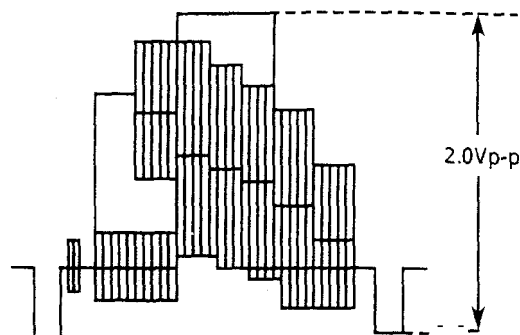

Figure 2-7.
5. Observe the voltage of pin ⑨ of IC201 (video output) on the oscilloscope screen. If the playback video signal level is above 2.0 Vp-p, turn R228 (deviation control) clockwise. If below 2.0 Vp-p, turn the control counter-clockwise. Now make self-recording and playback again.
6. Repeat the above step 5 to finally get the playback video signal level at 2.0 ± 0.08 Vp-p, as shown in Figure 2-7.